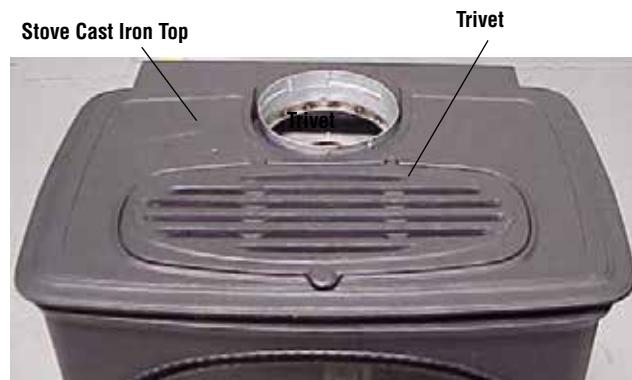

Figure 32
A. Place the cast iron top into position on the stove top (See **Figure 32**). Place the trivet into the recess on the cast iron top (See **Figure 32**).